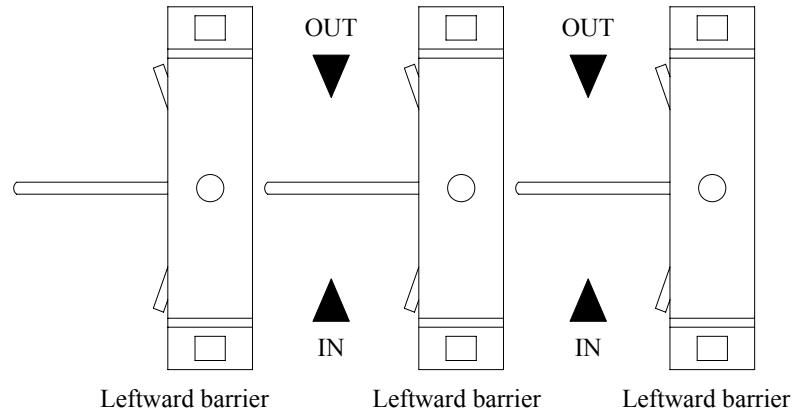

Figure 3
3) Double way barrier: available to pass in both directions, as shown in Figure 3: